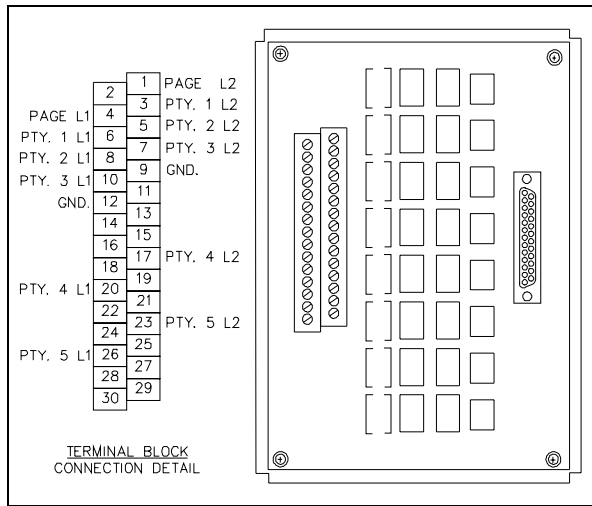
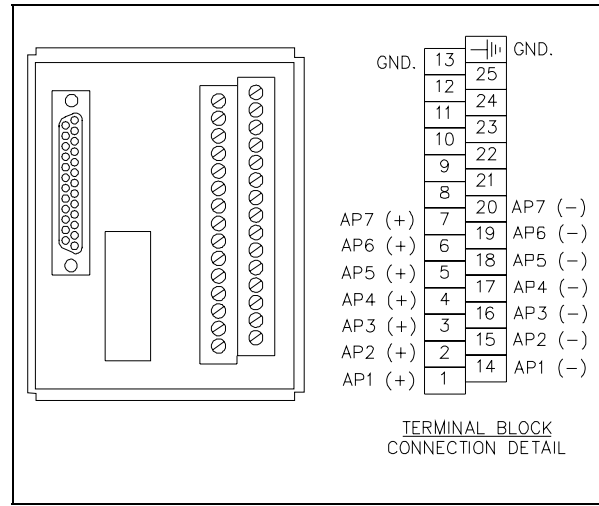

Figure 8. 13118-003 Connecting Module for Page/Party® Zones
Figure 9. 13118-005 Connecting Module for Access Panels and Central Amplifier Zones (Access Panel label shown)
7. Enter the cabinet with the cables and route to the appropriate connecting module leaving adequate spare cabling for servicing. Each connecting module is labeled (see Figure 8 and Figure 9 and the Wiring Tables on page 12).